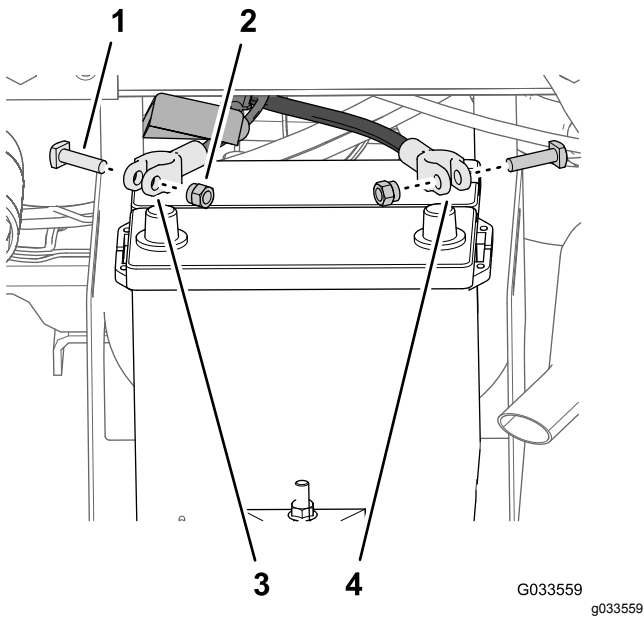

Figure 27
1. Remove the nuts and T-bolts at the clamps of the positive and negative battery cables (Figure 27).